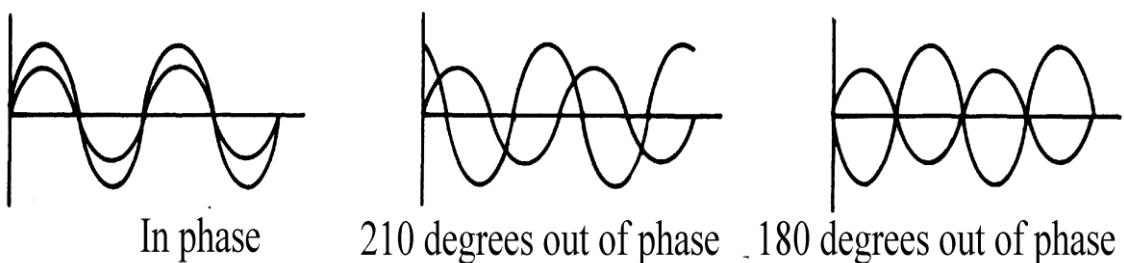

Figure 3
- Compare the input and output signals to establish their phase relationship (Fig. 3).